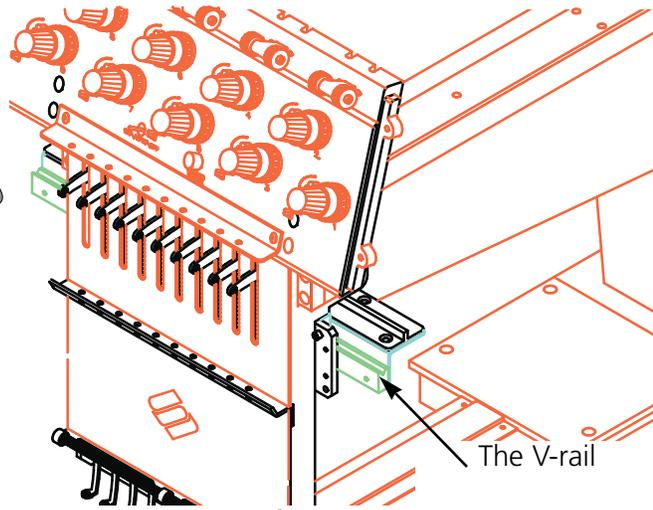

Figure 5-7
2. Place 1 drop of sewing machine oil in the groove shown in Figure 5-7.